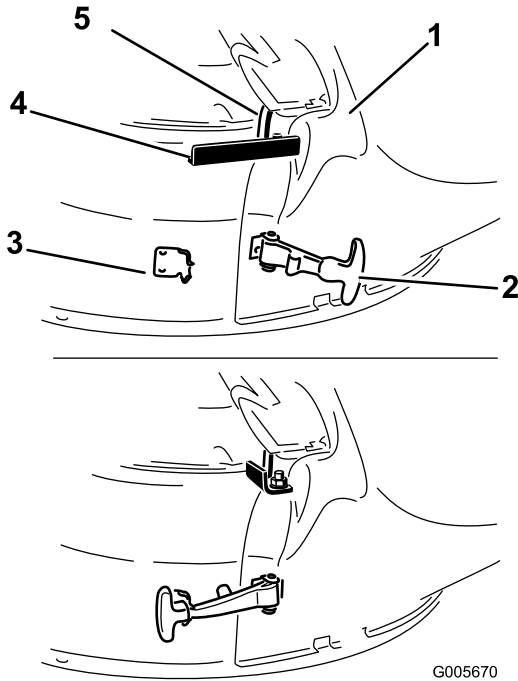

Figure 22
- Secure the chute to the deck. Hook the flexible latch on the chute to the retaining clasp welded on the mower deck to the rear of the opening (Figure 22). Fasten the retaining hook around the pivot rod to secure the chute into position.